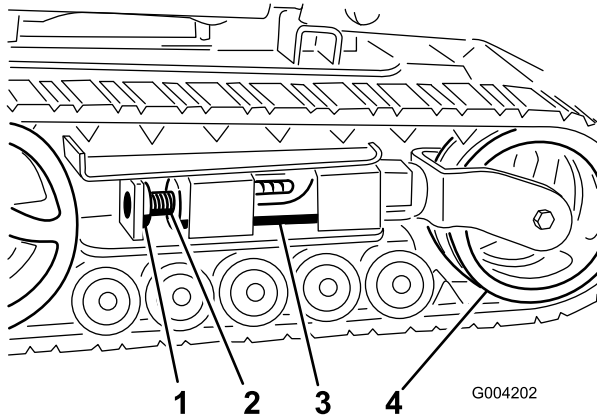
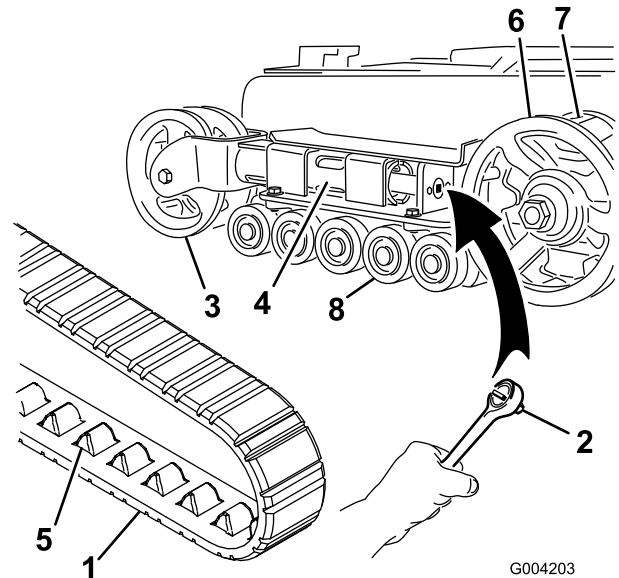

Figure 47
Figure 48
3. Remove the locking bolt and nut (Figure 47).
5. Align the closest notch in the tension screw to the locking bolt hole and secure the screw with the locking bolt and nut (Figure 47).
4. Using a drive socket wrench (1/2 inch), release the drive tension by turning the tensioning screw clockwise (Figure 47 and Figure 48).
5. Push the tension wheel toward the rear of the unit to move the tension tube against the frame (Figure 48). (If it does not touch the frame, continue turning the tensioning screw until it does.)
7. When the track is off the tension wheel, remove it from the drive sprocket and road wheels (Figure 48).
8. Beginning at the drive sprocket, coil the new track around the sprocket, ensuring that the lugs on the track fit between the cogs on the sprocket (Figure 48).
9. Push the track under and between the road wheels (Figure 48).
6. Place the greased road wheel cap over the bolt head (Figure 48).
7. Secure the road wheel cap with the snap ring (Figure 48).